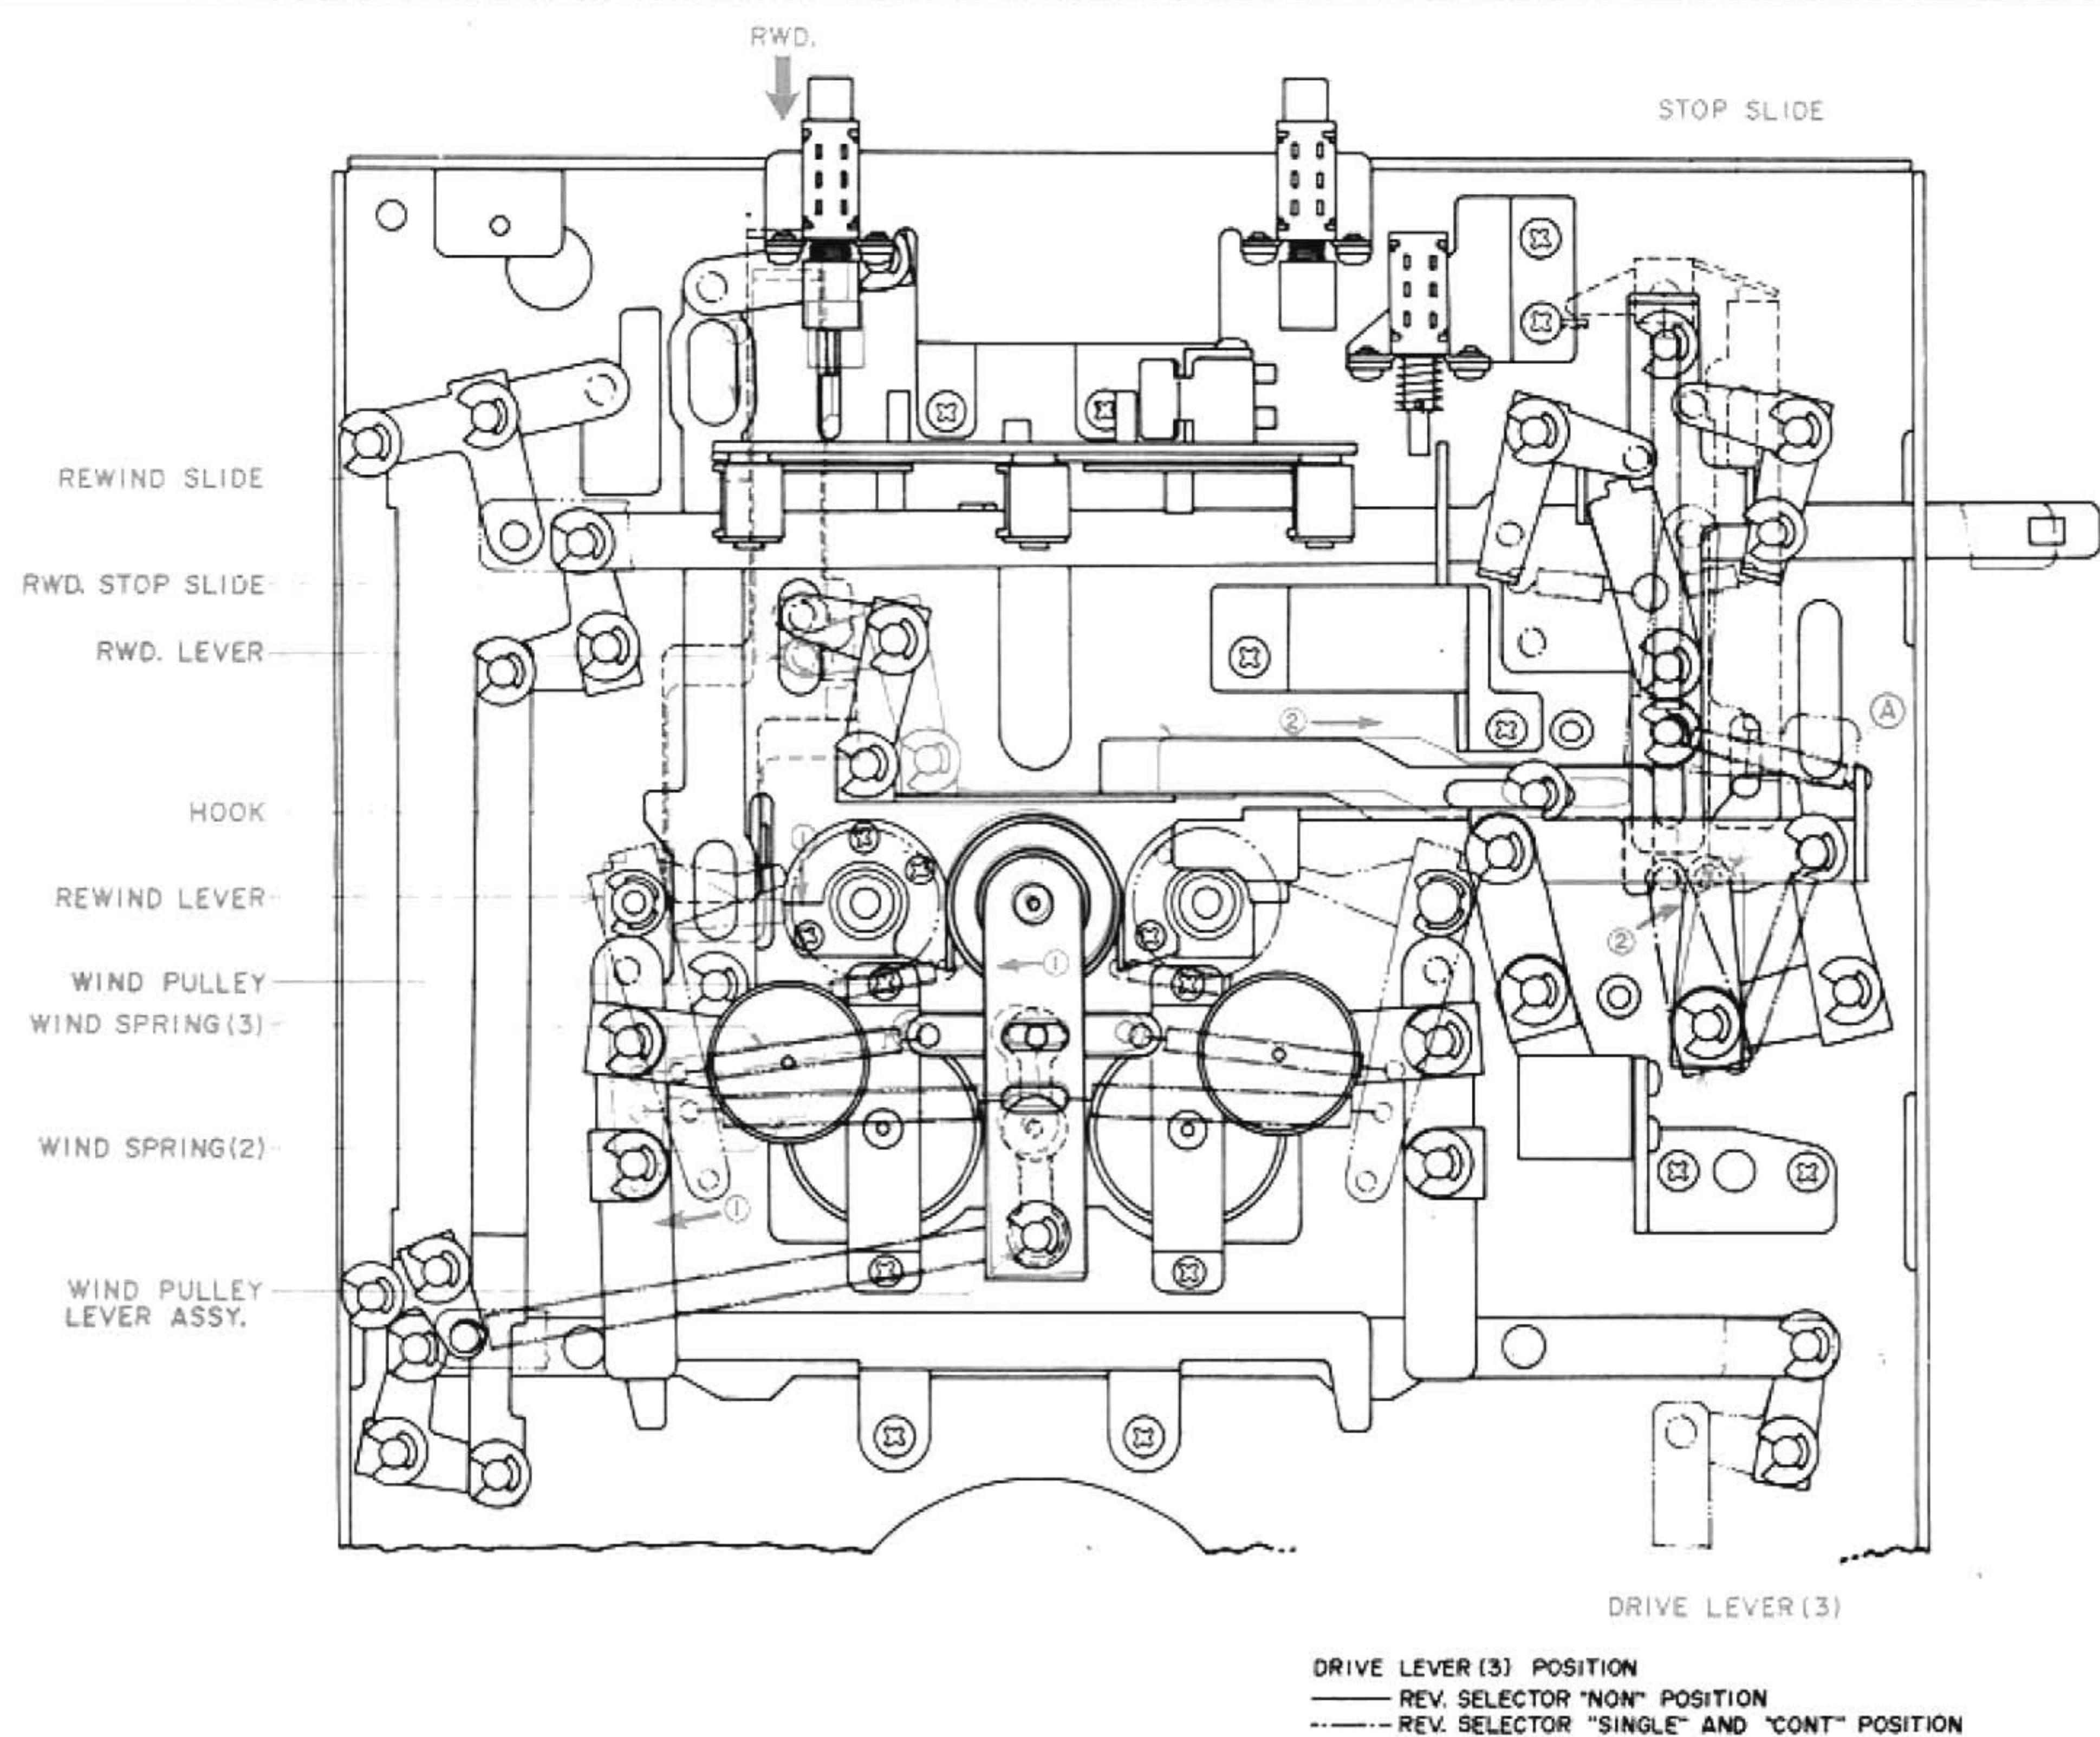

Fig. 35 From STOP to RWD Mode
ii) REWIND → STOP (Refer to Fig. 35)
- b) At this time, the Rewind lever pushes the Rewind stop slide to the left as shown by arrow mark (2) in Fig. 35 and drive lever (3) selector pin is stabilized at position (A).